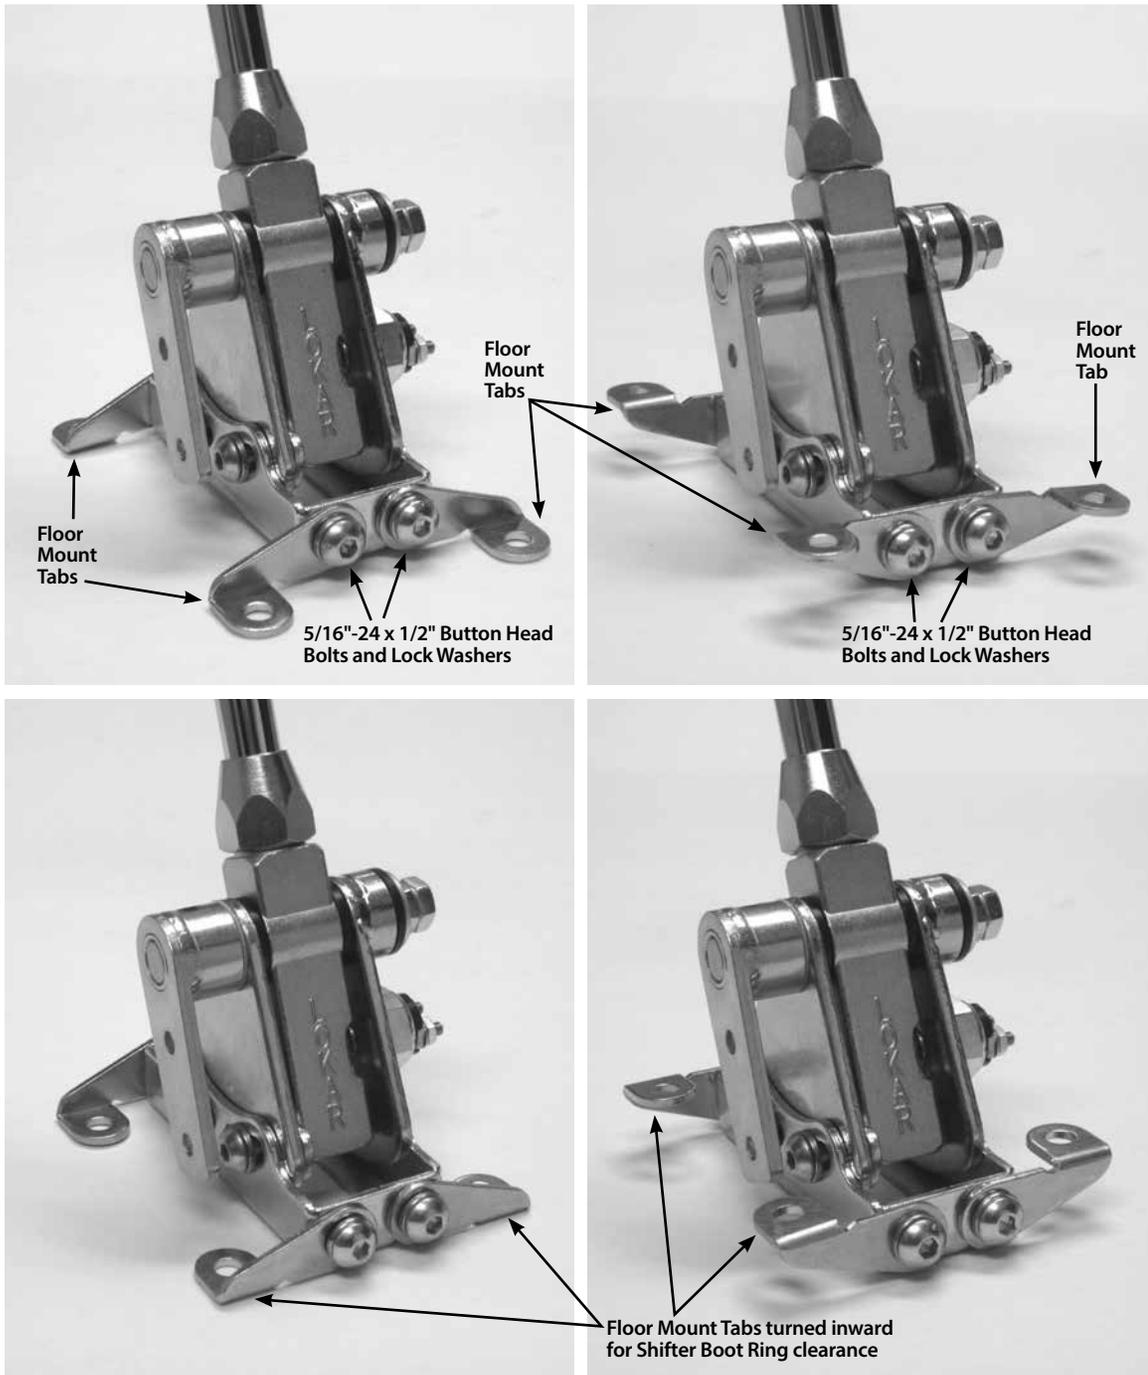

Fig. 4
Step 3: There are two pairs of floor mount tabs in the Shifter Kit. Which pair goes where will depend on if you are mounting the Shifter above or below the floor. See **Fig. 4** to determine how the floor mount tabs need to be positioned for your particular application.
Attach the floor mount tabs to the floor mount mounting bracket as shown in **Fig. 4** with the 5/16"-24 x 1/2" button head bolts and lock washers. Leave the bolts loose enough so that adjustments can be made later during the installation.